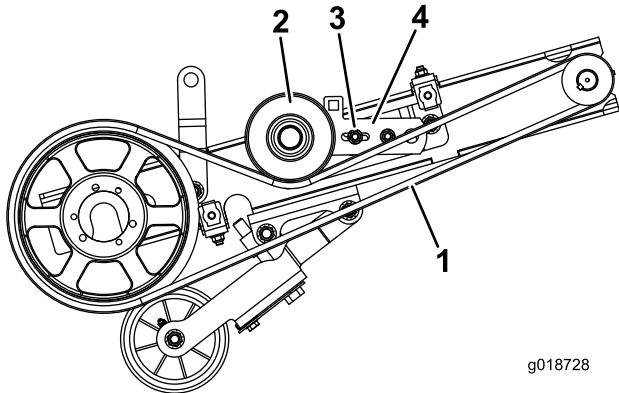

Figure 24
1. Remove the nut and bolt securing the idler pulley bracket (bolt in slotted hole in bracket) to the tension adjusting bracket (Figure 24).
4. Remove the lower belt guard and reel drive belt (Figure 24).